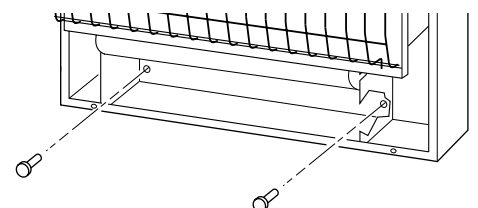

Figure 11 - Installing Bottom Mounting Screws
1. Locate two bottom mounting holes. These holes are near bottom on back panel of appliance (see Figure 11).